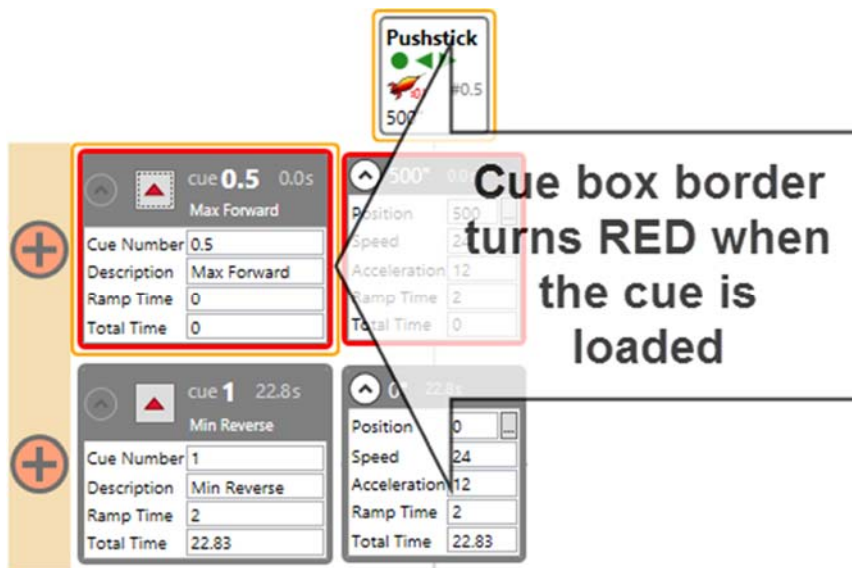

Figure 95
2. The border around the cue box will turn red, indicating that the cue is loaded (Figure 95).